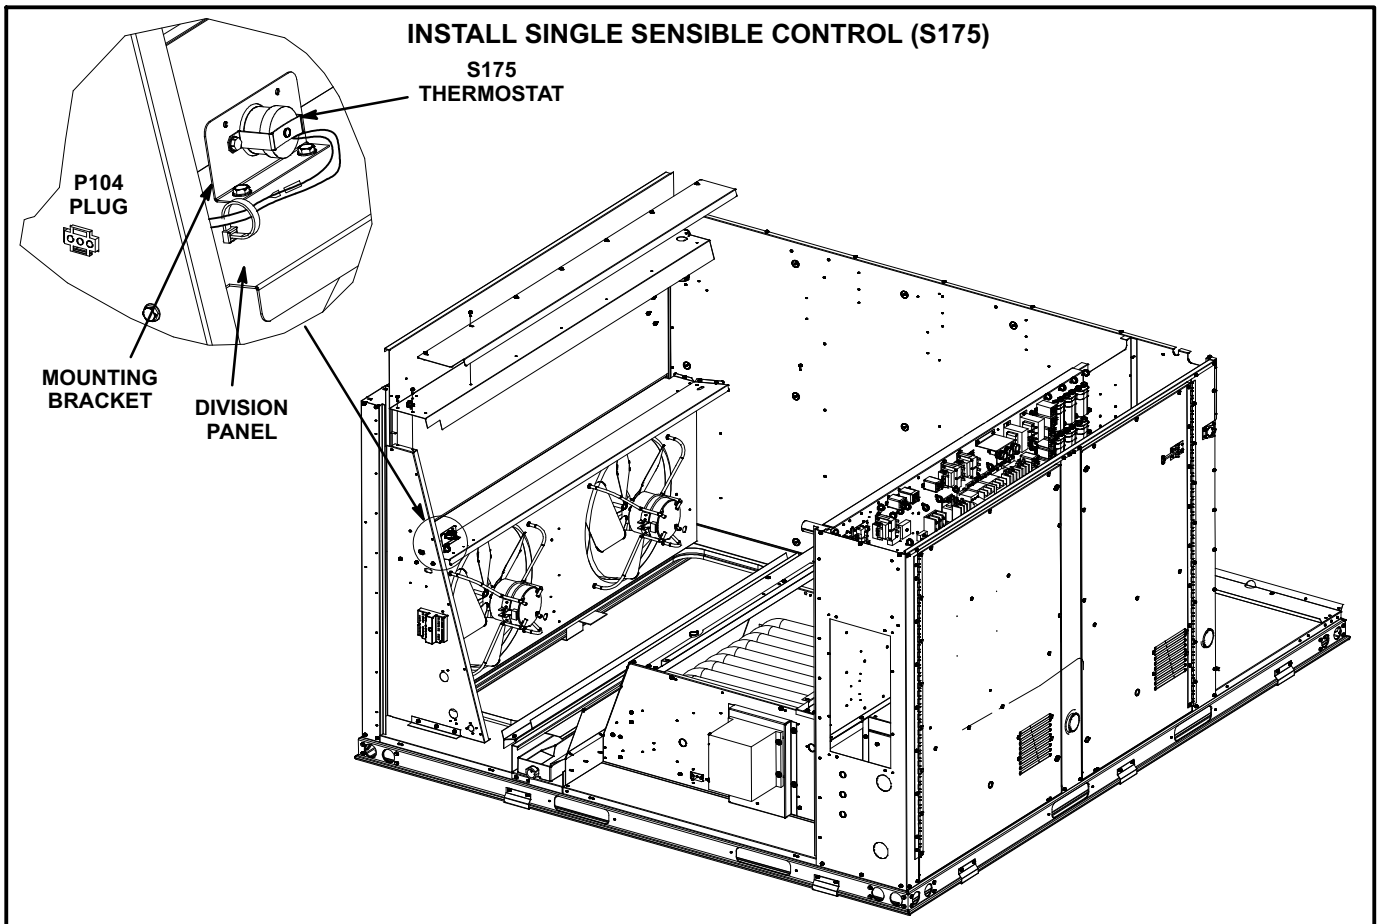

FIGURE 8
- 2- Install mounting bracket on divider panel as shown in figure 8.
- 4- Insert P104 plug into the side of the economizer as shown in figure 8.